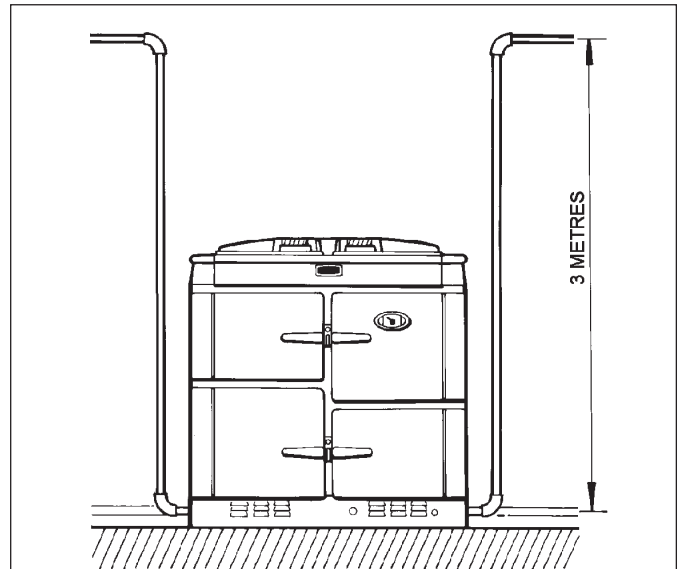

FIG. 9
Any upwards vertical runs must be immediate to the appliance to a maximum of 3 metres. (See Fig. 9)
- General terminal locations (See Fig. 9)